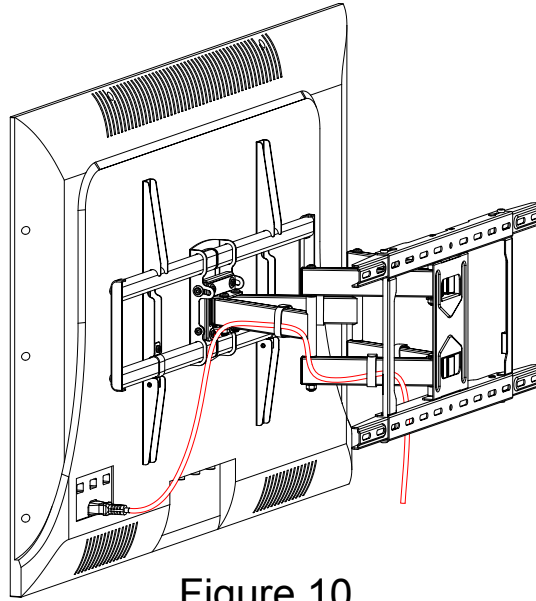

Figure 10
Step 9: Manage TV cables orderly and guide them through the velcros. (Figure 10)